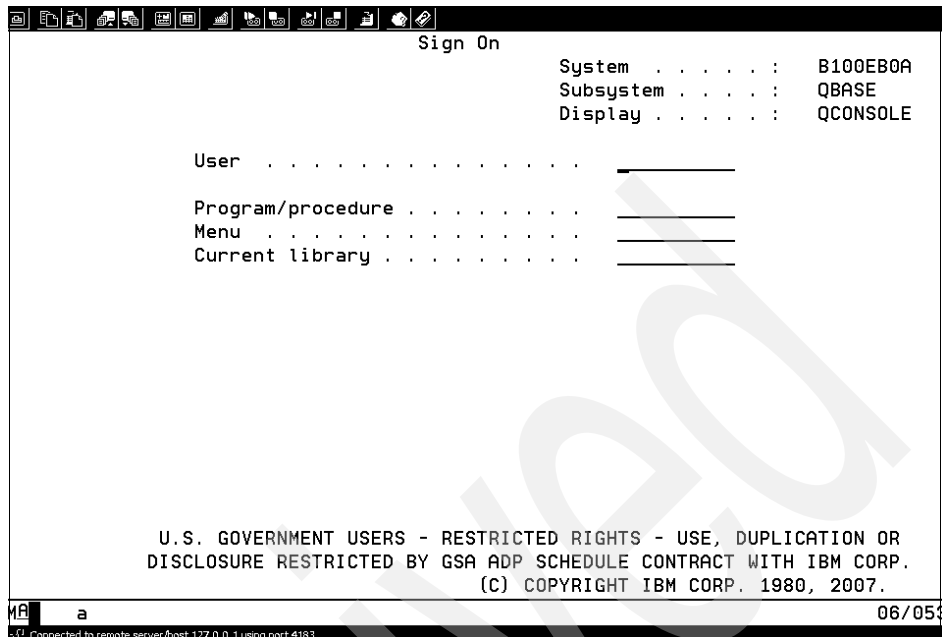

Figure 5-50 Sign On screen
8. When the Sign On screen is displayed, as shown in Figure 5-50 on page 269, the base installation of the IBM i 6.1 Operating System is finished.